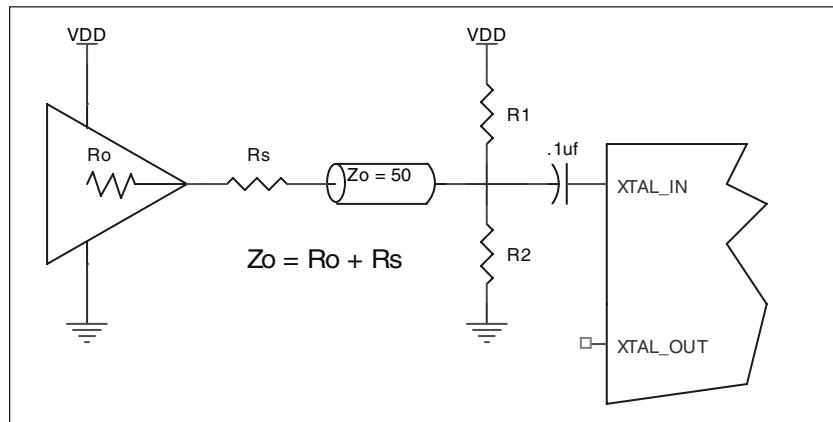

**FIGURE 2. CRYSTAL INPUT INTERFACE**
*Figure 2* below were determined using a  $14MHz$ ,  $18pF$  parallel resonant crystal and were chosen to minimize the ppm error.